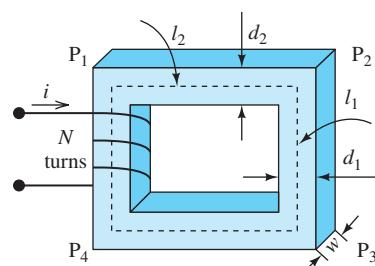

FIGURE P12.14 Magnetic core.
- 12.14** (H) A closed magnetic core is given in Figure P12.14.